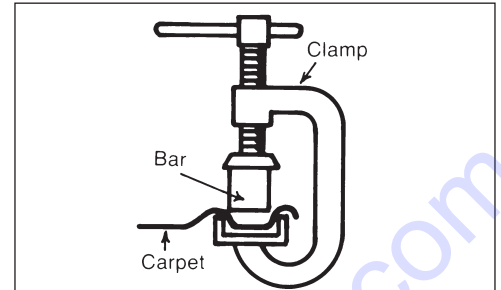

FIG. 8
1. Loosen the carpet approximately 12-18" from the wall where the tearout will begin. (The #99 Cobra Clamp (Figure 8) is an easy way to get ahold of carpet to pull away from the wall).
2. Attach pull bar to loosened carpet. Make sure the carpet goes all the way through the channel bar, reaching out the other side (all 3 sides) (Figure 8).
3. Insert bar and tighten "C" clamps. Make sure channel bar fits flat into the channel of the clamping bar (Figure 8). Failure to do so could cause bar to disengage carpet prematurely.